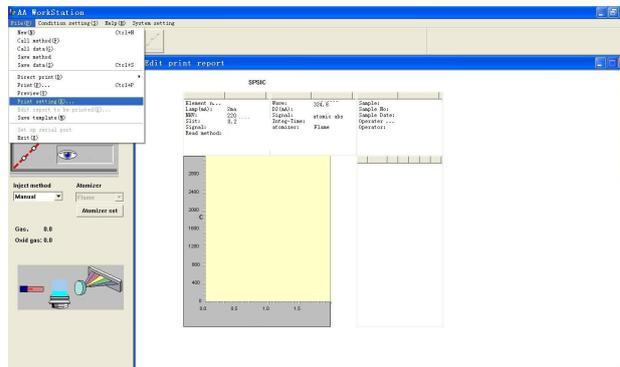

Figure 8-8
8. Then, select "Print preview" in the "File" menu as shown in Figure 8-7, and as the screen will appear as shown in Figure 8-8.